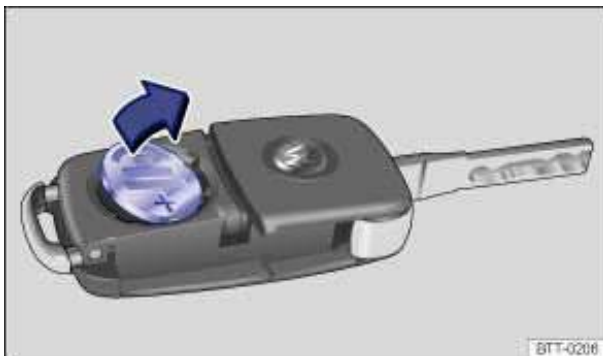

Fig. 23 Remote control vehicle key: Remove old battery.
- Use a thin object to pry the battery out of the battery compartment ⇒ fig. 23.